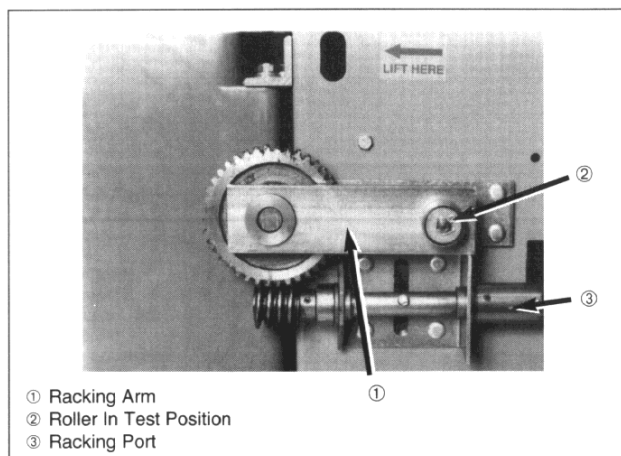

Figure 10: Racking mechanism in test position
The circuit breaker must be in the open position when it is racked in or out of its cubicle. The racking mechanism (figures 10 and 11) interlocks with the circuit breaker mechanism. This prevents the racking shaft from being turned when the circuit breaker is in the closed position.
1. The racking arms (figure 10) must be in the drawout position before inserting the breaker into the cell. In the drawout position, the racking arms extend toward the rear of the breaker and are just below the horizontal.
- b. Insert the racking handle into the racking port (figure 10).